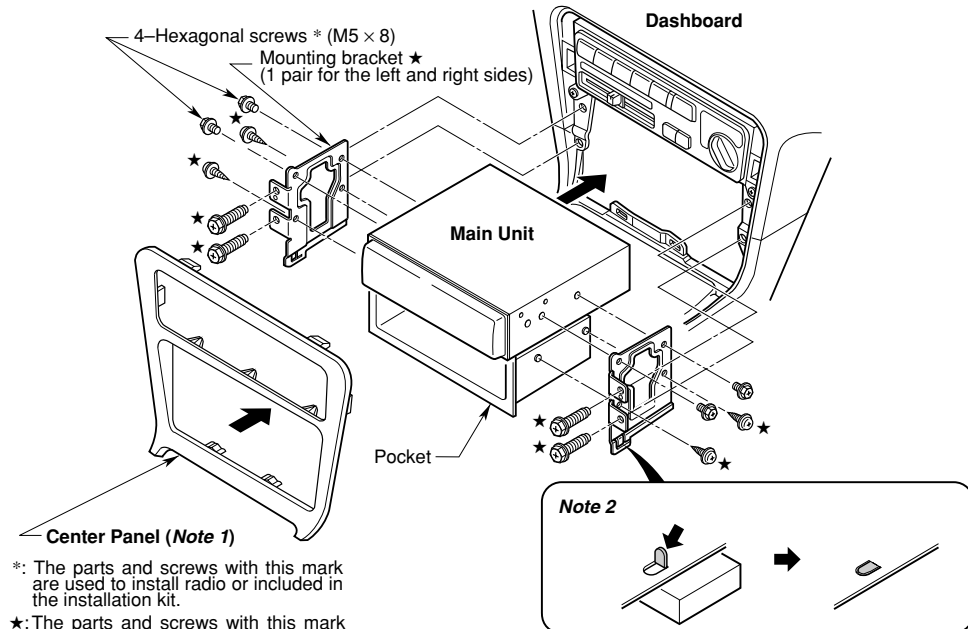

Figure 8
If the vehicle is equipped with a factory-installed radio, install the main unit with the parts and screws marked (*) (Figure 8).
2. Secure the mounting brackets to the chassis as shown in Figure 8. Holes are pre-tapped for TOYOTA and NISSAN vehicles; modification, such as drilling new holes, of the mounting brackets may be required for other models.